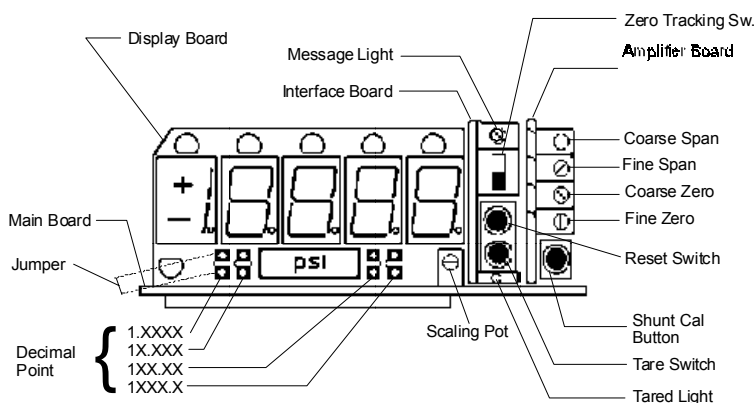

Figure 4-1 -- Adjustment Locations
The following instructions will serve to zero and calibrate the Amplifier circuits, located on the Amplifier Board. See Figure 4-1.
3. Adjust the COARSE ZERO potentiometer (see Figure 4-1) to give an output voltage of about 0 volts. Then adjust the FINE ZERO potentiometer to bring this value exactly to 0 volts.
Scaling adjustment permits the HM to display values in engineering units desired by the customer. Scaling adjustment establishes the ratio between the voltage output of the HM and its displayed value. The SCALING potentiometer is located on the Main Board, as shown in Figure 4-1. Again, adjustment can be made either with shunt calibration or with a known pressure or load on the transducer. Perform the scaling adjustment right after the span is adjusted, using the same output voltage to assist in calibration of scaling.
3. Place the jumper in the proper place on the Display Board to locate the decimal point as illustrated in Figure 4-1.
1. Referring to Figure 4-1, move the ZERO TRACKING switch to